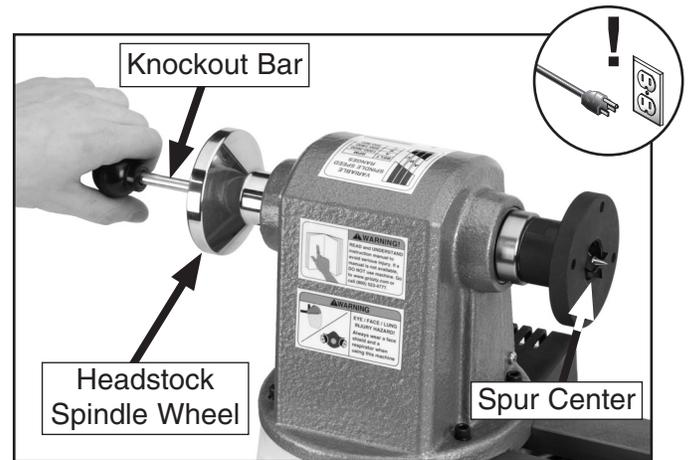

Figure 24. Removing spur center.
2. Insert the knockout rod into the outboard end of the spindle. Use a shop rag or wear a glove to catch the center and gently tap the rod handle until the spur center is freed from the spindle (**Figure 24**).